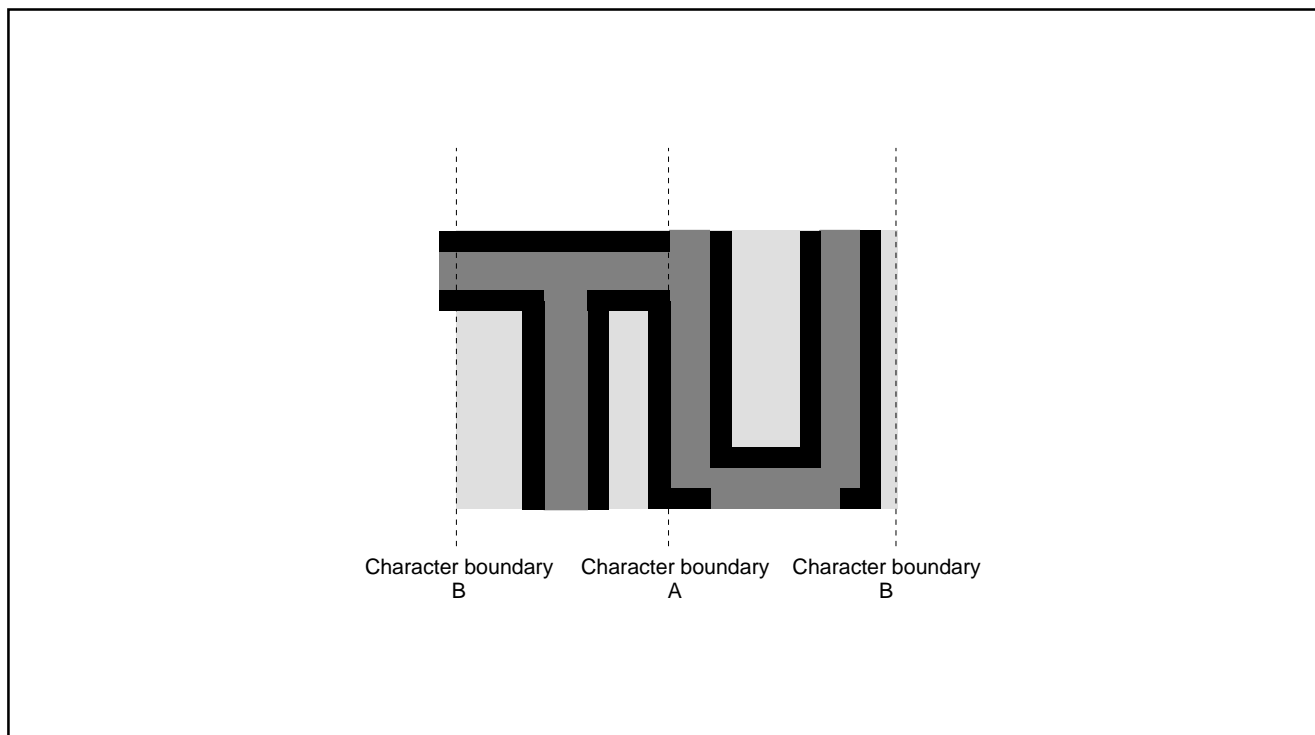

Fig. 8.11.23 Border Priority
- 2 :** When the border dot overlaps on the next character font, the character font has priority (refer to Figure 8.11.23 A).
When the border dot overlaps the next character back ground, the border has priority (refer to Figure 8.11.23 B).
- 3 :** The border in vertical out of the character area is not displayed (refer to Figure 8.11.23).